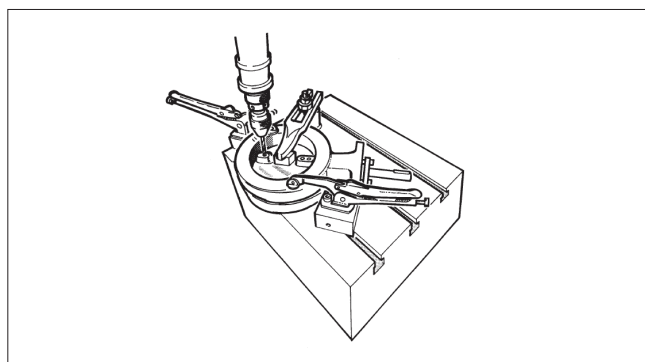

Fig. 15 Pressing the pins
- Remove the clamp ring (2) and seat ring (4) according to section 5.
- Set the valve horizontally on a sturdy surface so that the flat side of the disc lays against the surface (see Fig. 15).
- Drill the holes carefully to the center of the pins (16). Choose a drill 0.2-0.5 mm smaller than the diameter of the pin.
- Dismantle the gland packing including anti-extrusion ring (23) according to Section 5.3.
- Detach the screws (44) and the blind flange (8) and remove the gasket (31).
- Place rubber strips or other protection between the disc edge and the body and remove the shafts (see Fig. 15).
- Remove the bearings (11).